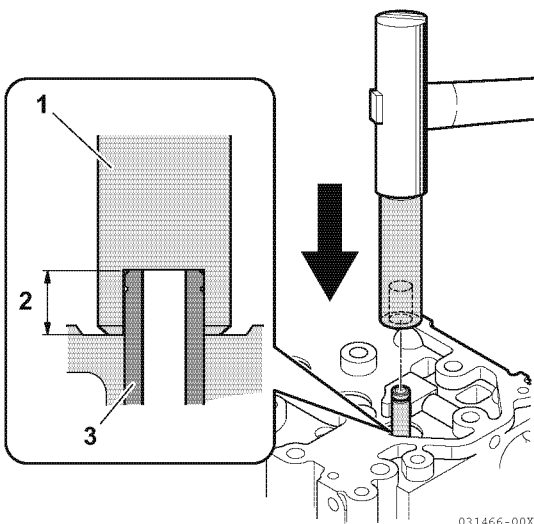

Figure 6-31
3. Finish installing the valve guides (1, Figure 6-31) into the cylinder head to the proper height (3, Figure 6-31) using the valve guide installation tool (2, Figure 6-31). See *Intake/Exhaust Valve and Guide* on page 6-5.